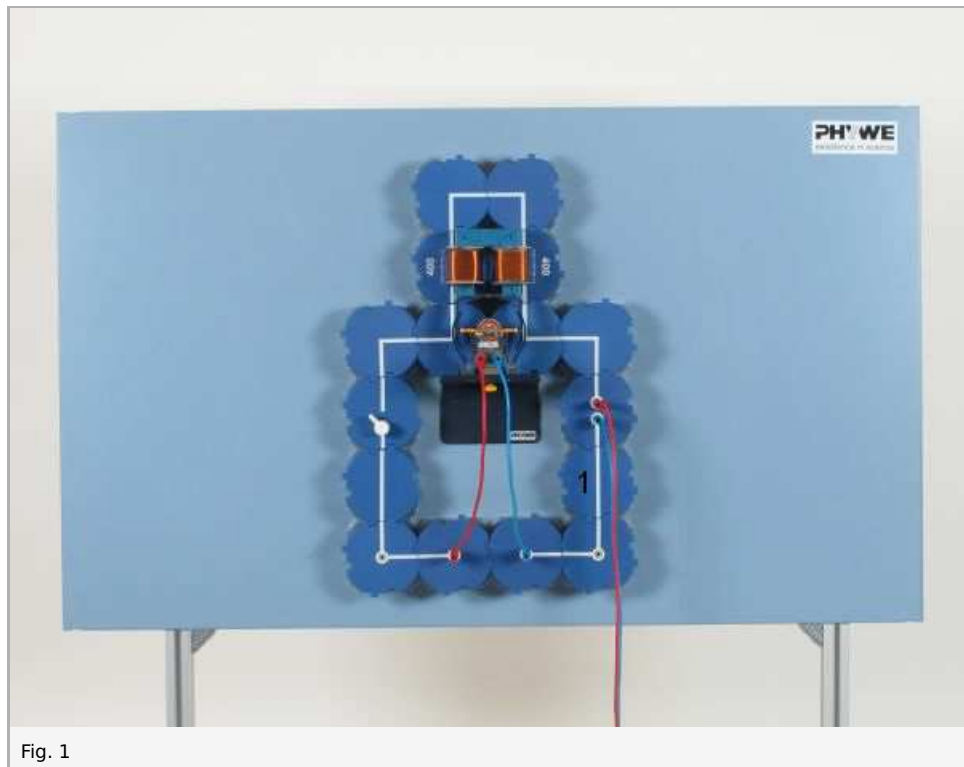

Fig. 1
- Set up the experiment as shown in Fig. 1 with the switch open; place the motor model on the holder and screw it tight, then position it below the coil with the U-core